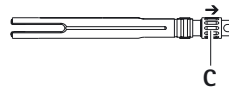

Fig. 1
- Turn fixing screw **C** in the direction of the arrow until the thread in the direction of the working end becomes visible, see Fig. 1.